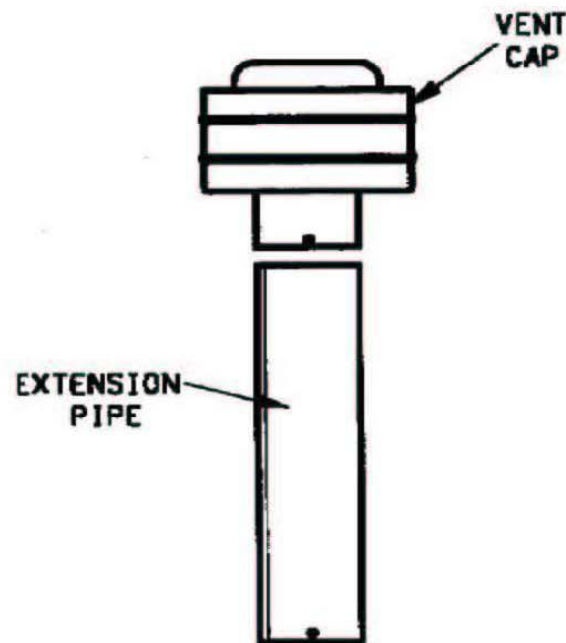

FIGURE 3
3. Install vent cap over top of extension pipe as shown in figure 3. Move vent cap until it bottoms out on the extension pipe. Drill two 3/32 pilot holes. Secure vent cap with two screws supplied. "DO NOT" overtighten the screws.